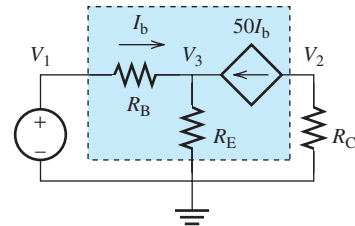

FIGURE P3.41 Circuit for Problem 3.41.
3.41 (H) The circuit shown in Figure P3.41 is a simple bipolar junction transistor amplifier. The portion of the circuit in the shaded box is an approximate T-model of a transistor in the common-emitter configuration.